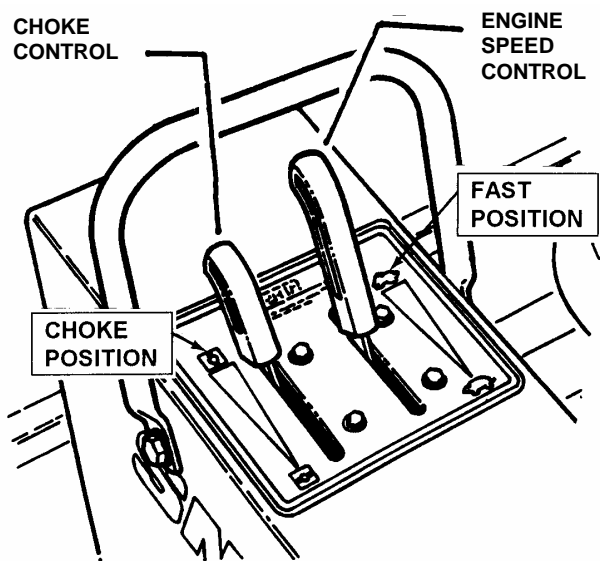

FIGURE 2.4
4. Move choke control forward to choke position to start a cold engine. See Figure 2.4.
5. Move engine speed control to the Rabbit "FAST" position. See Figure 2.4
1. Start engine and set engine speed control to the Rabbit "FAST" position. See Figure 2.4.